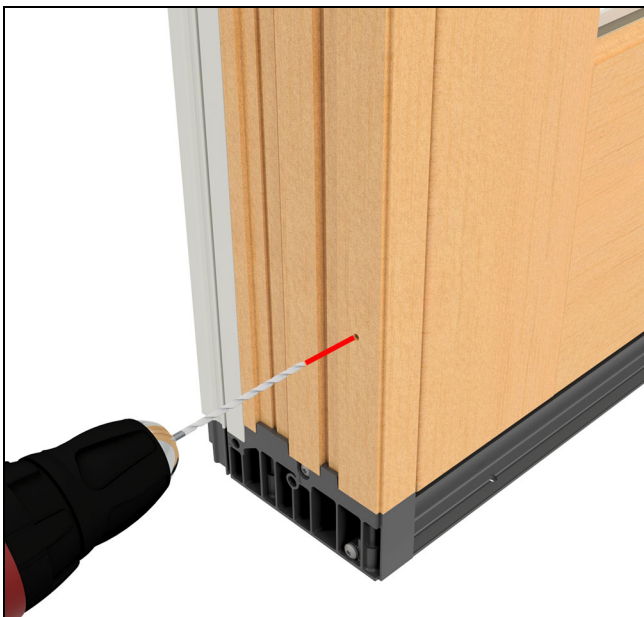

Figure 38
16. Hold the panel in place and use the holes in the side jamb to pre-drill into the panel with a 1/8" drill bit. See Figure 38.